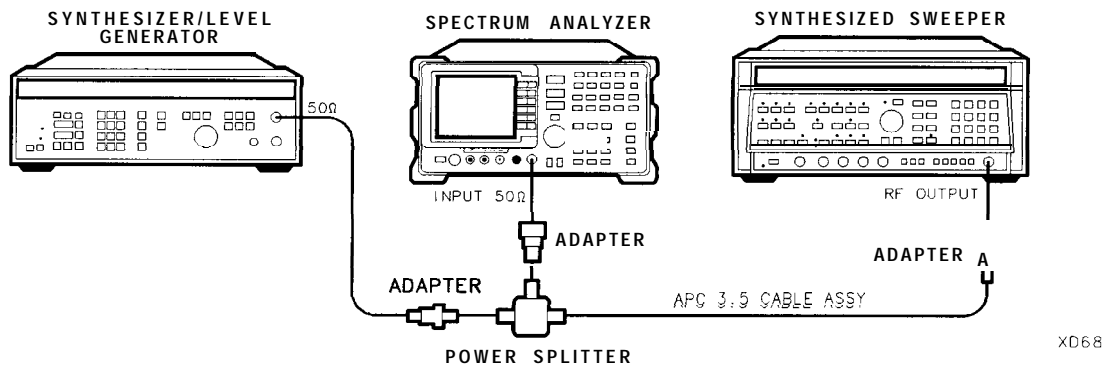

Figure 2-13. 10.1 MHz to 10 kHz Frequency Span Readout Accuracy Test Setup
1. Connect the equipment as shown in Figure 2-13. Note that the power splitter is used as a combiner.